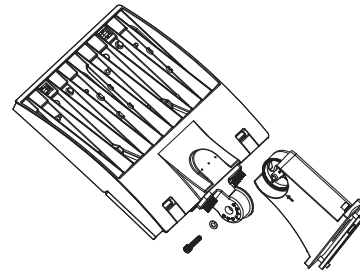

FIG. 1
1. Align fixture head and arm at the desired angle with the knuckle. (See Fig. 1)